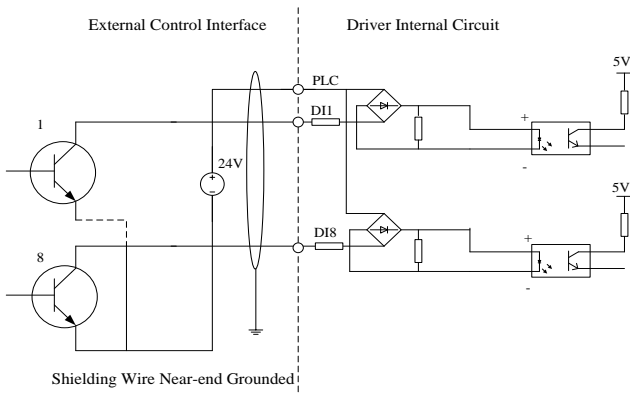

Fig. 2-5 Connection Mode Using an External Power Supply
3) NPN connection mode using an external power supply: (Note to remove the connecting wire between PLC and 24V terminal), as shown in Fig. 2-5.